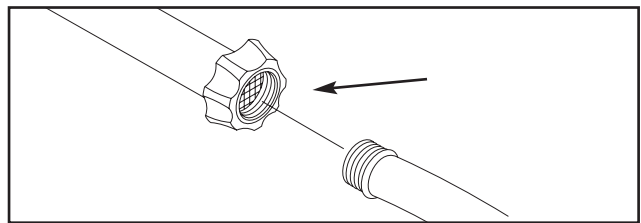

Figure 2
3. Before connecting garden hose to water inlet, inspect inlet screen (Figure 2). Clean screen if it contains debris or have it replaced if damaged. DO NOT run pressure washer if inlet screen is damaged.
5. Connect the garden hose (not to exceed 15 M / 50 FT in length) to the water inlet. Tighten by hand (Figure 2).